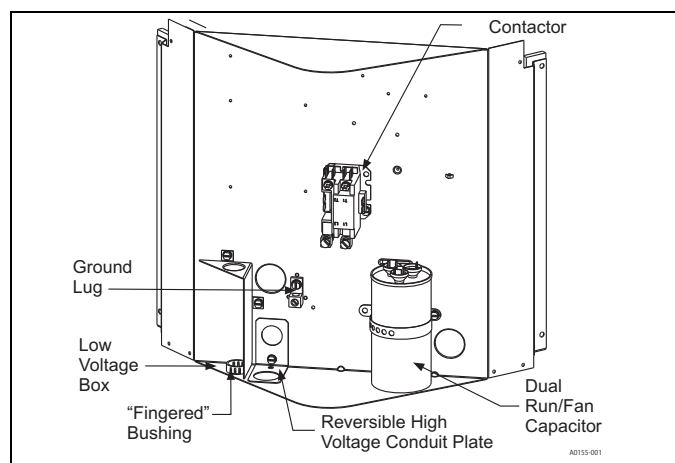

FIGURE 7: Outdoor Unit Control Box (Single Phase)
4. Route wires from disconnect through power wiring opening provided and into the unit control box as shown in Figures 7 & 8.
1. Route low voltage wiring into bottom of control box as shown in Figures 7 or 8. Make low voltage wiring connections inside the low voltage box per Figures 9 or 10.